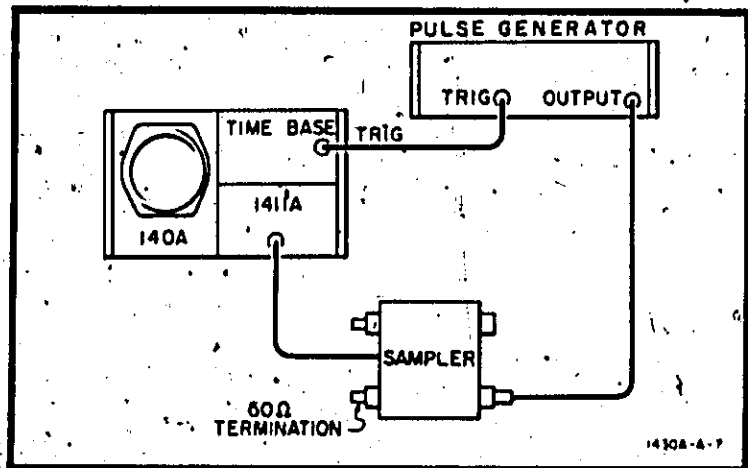

Figure 5-2. Pulse Generator Test Setup
a. Use a variable pulse generator such as HP Model 222A, and connect equipment as shown in Figure 5-2. Connect pulse generator output to channel A INPUT.
c. Connect equipment as shown in Figure 5-2. Connect signal generator output to channel A INPUT.